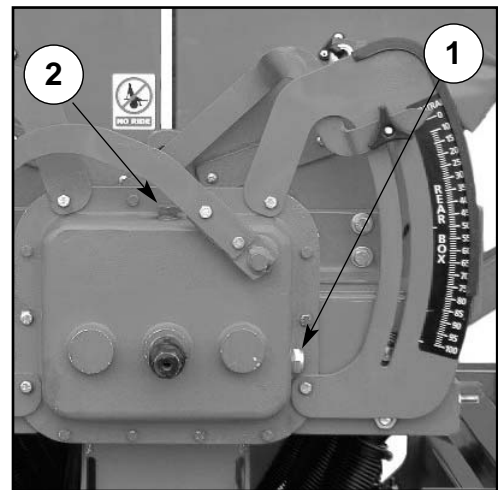

Fig 18
The oil level in the gearbox can be seen in the oil gauge window (1). Changing the gearbox oil is normally not necessary. For refilling the oil remove the 1/2" BSP plug on the top face of the gearbox (2), Castrol Oil Agri Trans Plus should be used. The total filling capacity is 1.25 litres (refer Fig 18).